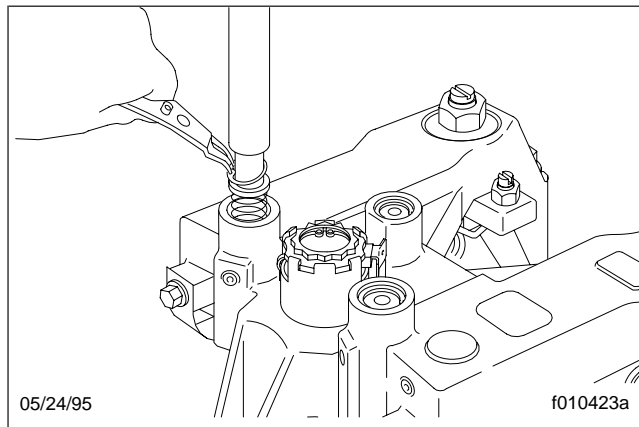

Fig. 1, Press the Control Valve Cover
5. Press down on the control valve cover to relieve spring pressure. See **Fig. 1**.